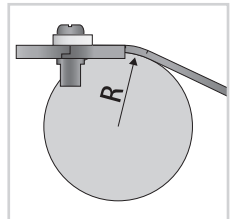

fig. 7
- To avoid fractures when bending the system anchor, make sure not to fall below the radii given in the table (fig. 7). The bending radius depends on the thickness of the material (see table).